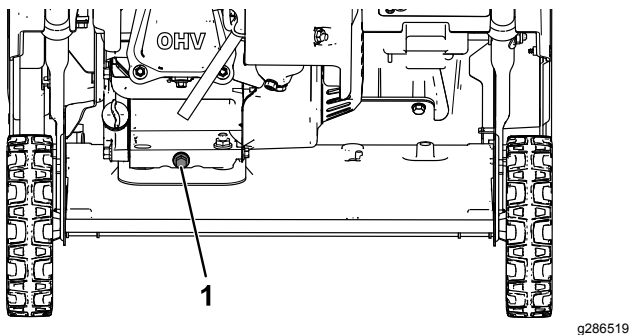

Figure 22
3. Place an oil-drain pan under the oil-drain plug, remove the plug, and tip the machine backward and drain the used oil in the pan (Figure 22).